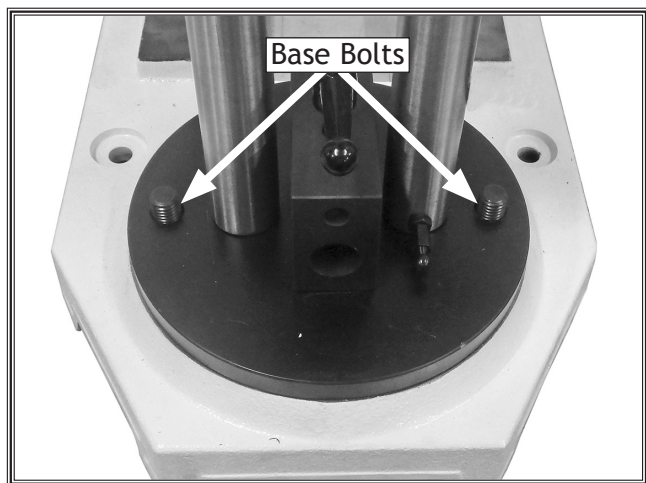

Figure 4. Assembly mounted on base.
3. Position head and column assembly over pivot slot, align bolts with holes in assembly base, and lower assembly into position, as shown in **Figure 4**.